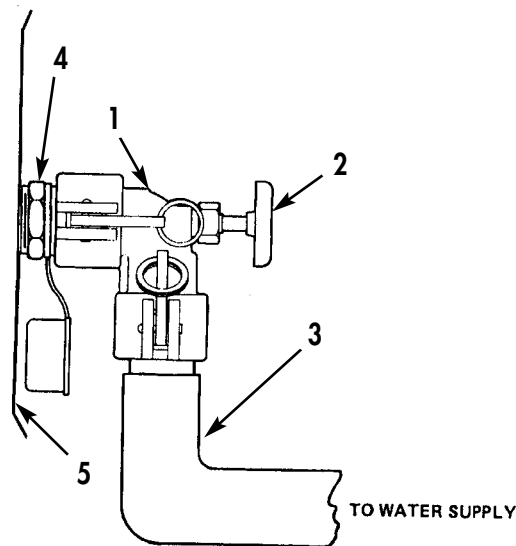

Figure 9. Filling Drum with Drinking Water.
6. Connect and lock coupler valve (Figure 9, Item 1) to adapter assembly (Figure 9, Item 4).
7. Turn handwheel (Figure 9, Item 2) counterclockwise all the way to open coupler valve (Figure 9, Item 1), and allow drum (Figure 9, Item 5) to fill with drinking water.
8. When drum is approximately full, turn handwheel (Figure 9, Item 2) all the way clockwise until coupler valve (Figure 9, Item 1) is closed.
9. Unlock and remove coupler valve (Figure 9, Item 1) from adapter assembly (Figure 9, Item 4).
10. Install one coupler valve (Figure 9, Item 1) on adapter assembly (Figure 9, Item 4) at end of filled drum.
12. When the last drum has been filled, shut off valve at drinking water source and disconnect supply hose (Figure 9, Item 3) from coupler valve (Figure 9, Item 1). Leave coupler valve installed on drum. Install second coupler valve on drum at opposite end.